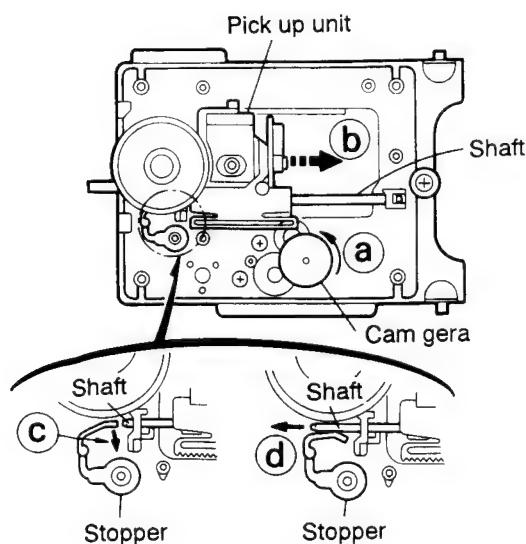

Fig. 5-34a
■ Removing the CD pickup unit (See Fig. 5-34a)
1. Move the cam gear in the arrow direction ④. Then, the CD pickup unit will be moved in the arrow direction ⑤.
2. According to the above step, shift the CD pickup unit to the center position (Fig. 5-34a).
3. While pressing the stopper retaining the shaft in the arrow direction ⑥, pull out the shaft in the arrow direction ⑦ (See Fig. 5-34a).